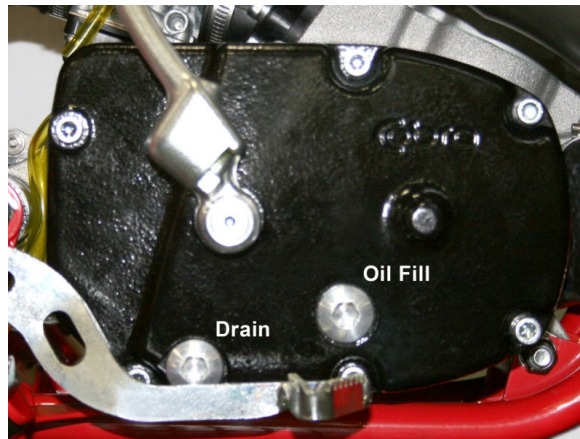

Figure 1
2. Remove the oil drain plug, on the clutch cover, near the brake lever (figure 1).